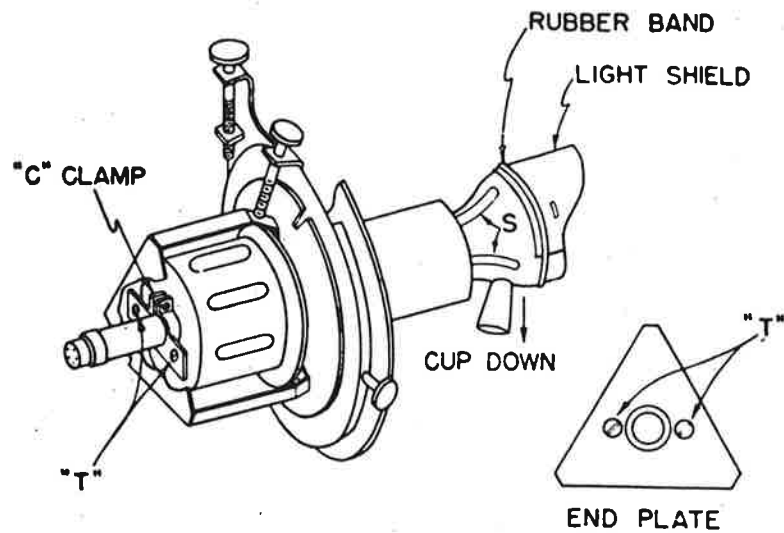

Figure 2-3—Kinescope Insertion
- 4) (See figure 2-3). Loosen the screw on the clamp marked "C" by inserting a screw-driver from the side, and the two screws marked "T" which center the neck of the tube in the opening of the triangle-shaped end plate.